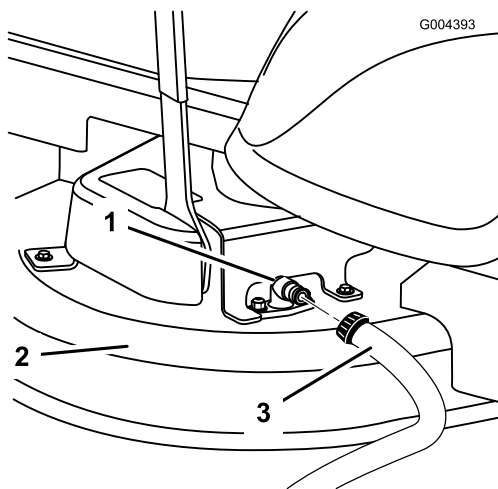

Figure 61
3. Attach the hose to the end of the mower washout fitting, and turn the water on high (Figure 61).